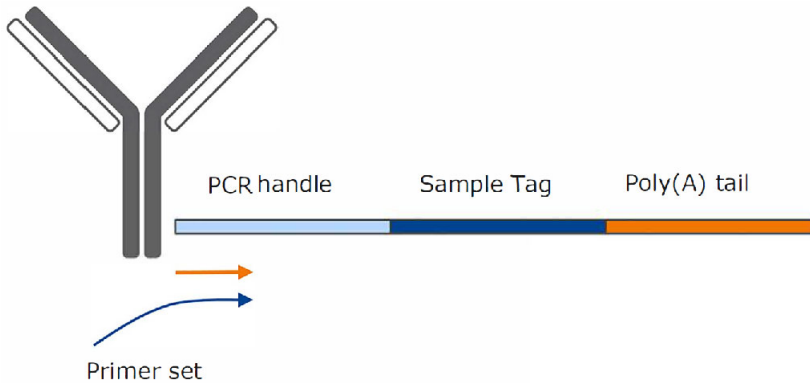

Figure 1 The Sample Tag design ensures compatibility with the 10x Chromium Single Cell 3' assay.
The BD™ Single-Cell Multiplexing Kit—Human uses an innovative antibody-oligo technology to increase sample throughput of single cell 3' RNA-seq assays. Every antibody-oligo in the kit, called a Sample Tag, has a unique sample barcode conjugated to a human universal antibody. (See Figure 1.) Adjacent to the Sample Tag barcode are a universal PCR handle and poly(A) tail, which allow each Sample Tag to be captured and amplified by 3' single cell RNA-seq methods. The BD Single-Cell Multiplexing Kit—Human contains 12 Sample Tags and two Sample Tag-specific primers for Sample Tag library generation.